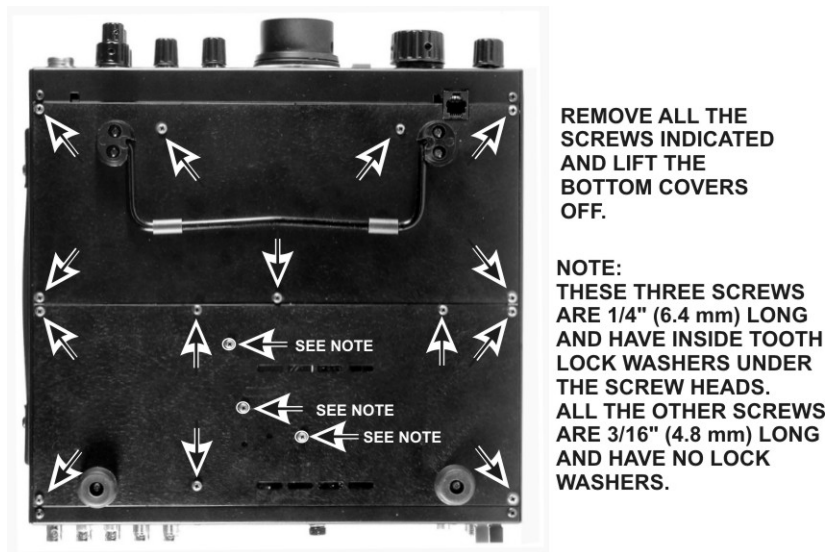

Figure 6. Removing the Bottom Covers.
- ☐ Turn the K3 upside down and remove the bottom covers (see Figure 6).
☐ Replace both bottom covers using the 4-40 black pan head screws you removed earlier. Note that three locations take the 4-40 1/4" (6.4 mm) black pan head screws with lock washers as shown in Figure 6, while the remainder are 4-40 3/16" (4.8 mm) screws. Be sure to replace these screws in the correct locations. Make sure all the screws are secure, but do not over tighten them/
**Failure to replace the three 1/4" (6.4 mm) screws with their lock washers in the locations shown in Figure 6 may destroy power transistors in your K3!**